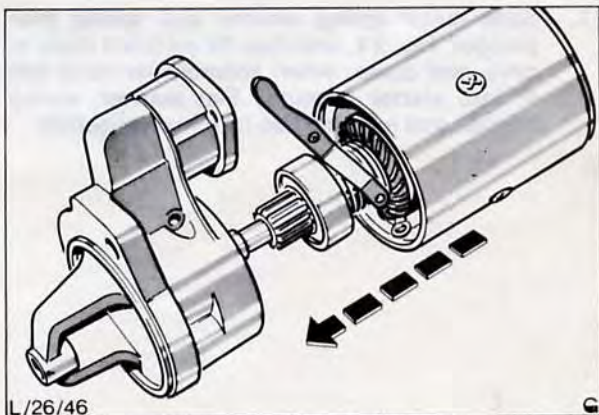

Fig. 91. Assemble drive end housing to armature and yoke assemblies
17. Fit drive end housing to yoke, Fig. 91, ensuring that solenoid mount is in line with starter terminal and secure it with through bolts. Fit actuating lever pivot pin and drive on new retaining clip. Alternatively 'pean' over end of new hollow pin.